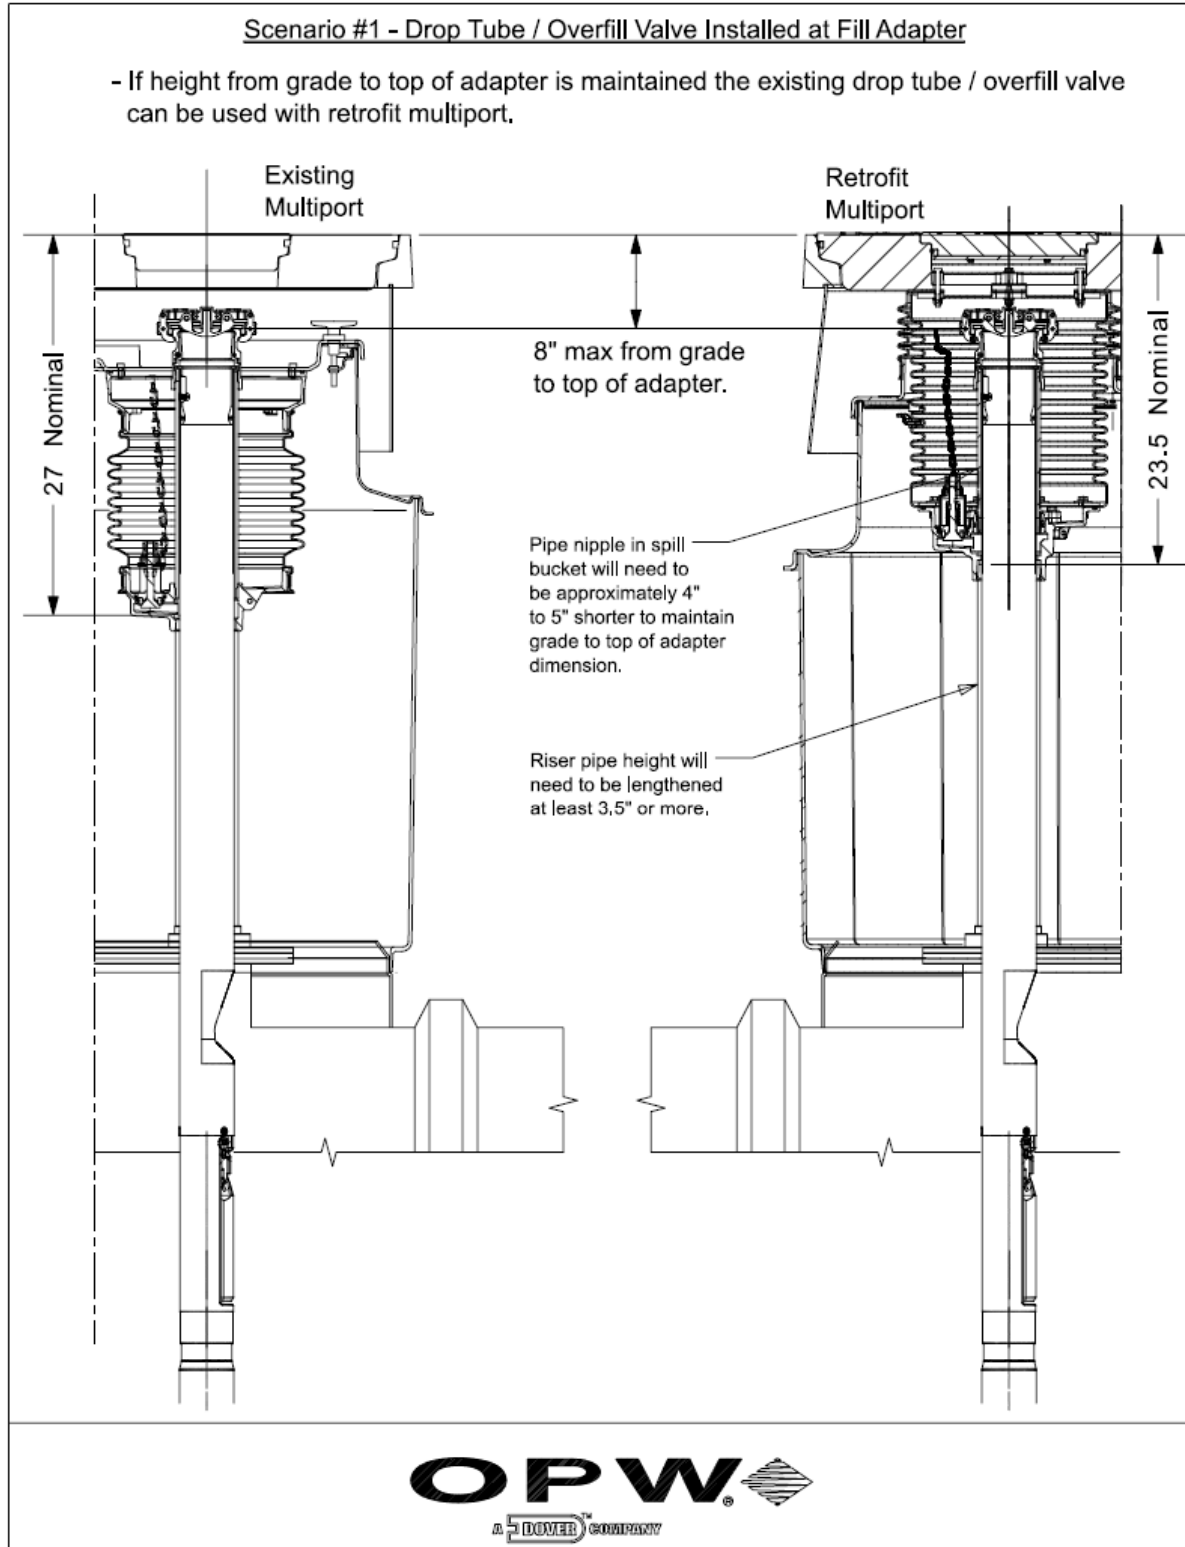

Figure 32
53. If desired, the existing drop tube / overflow valve can potentially be used with the retrofit installation. Determine mounting location of current drop tube / overflow valve (See Figure 32 and 33 for the two most common scenarios).
Scenario #1 (Figure 32) - If drop tube / overflow valve is mounted at the adapter (the drop tube / overflow valve can be used as is if the grade to adapter height is maintained. Measure existing grade to adapter height and maintain with new configuration. Confirm dimensions meet requirements in the drop tube / overflow valve instructions when reinstalling.